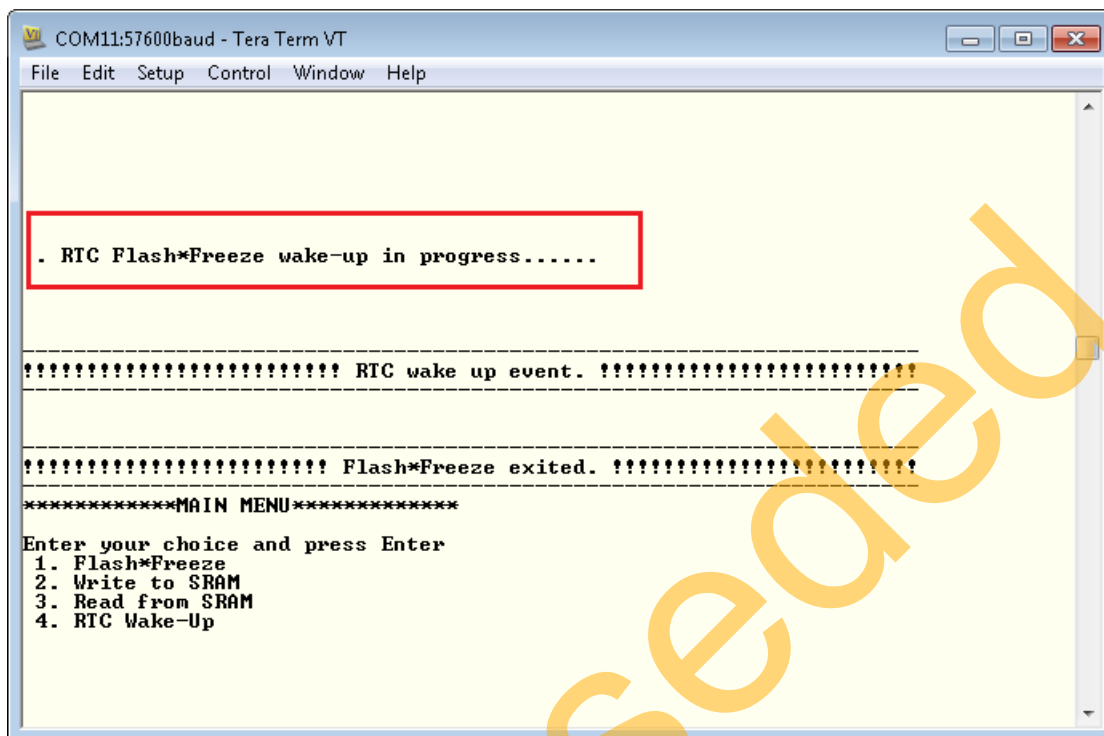

Figure 13 • RTC F*F Exit Event
2. Select 4 (RTC Wake-Up). The RTC is initialized with an RTC_PRESCALER value. The RTC counter is reset then the RTC is configured as Single Shot Alarm mode. The counter is then started. When the counter reaches its set value, an interrupt is triggered and the device wakes up from F*F mode, as shown in Figure 13 on page 14.